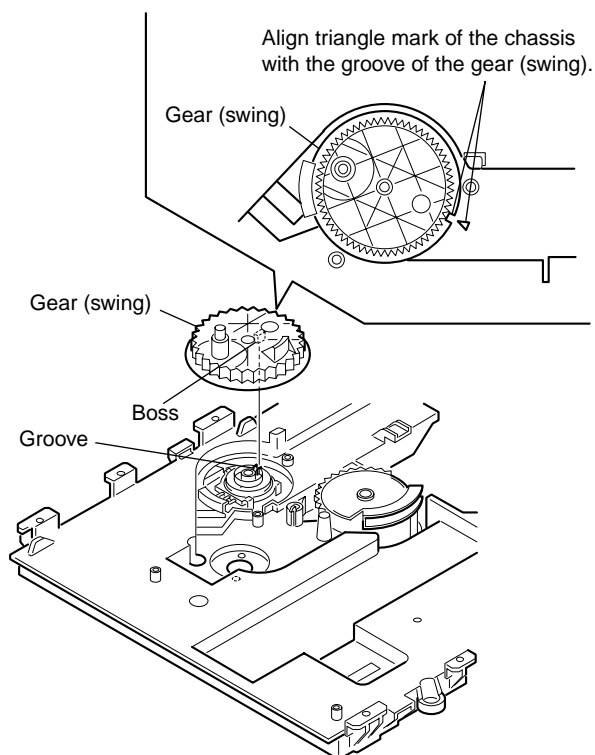

Fig. 6
- 3) Connect the boss of the gear (swing) with the groove of the rotary encoder and mount the gear (swing). (See Fig. 6)